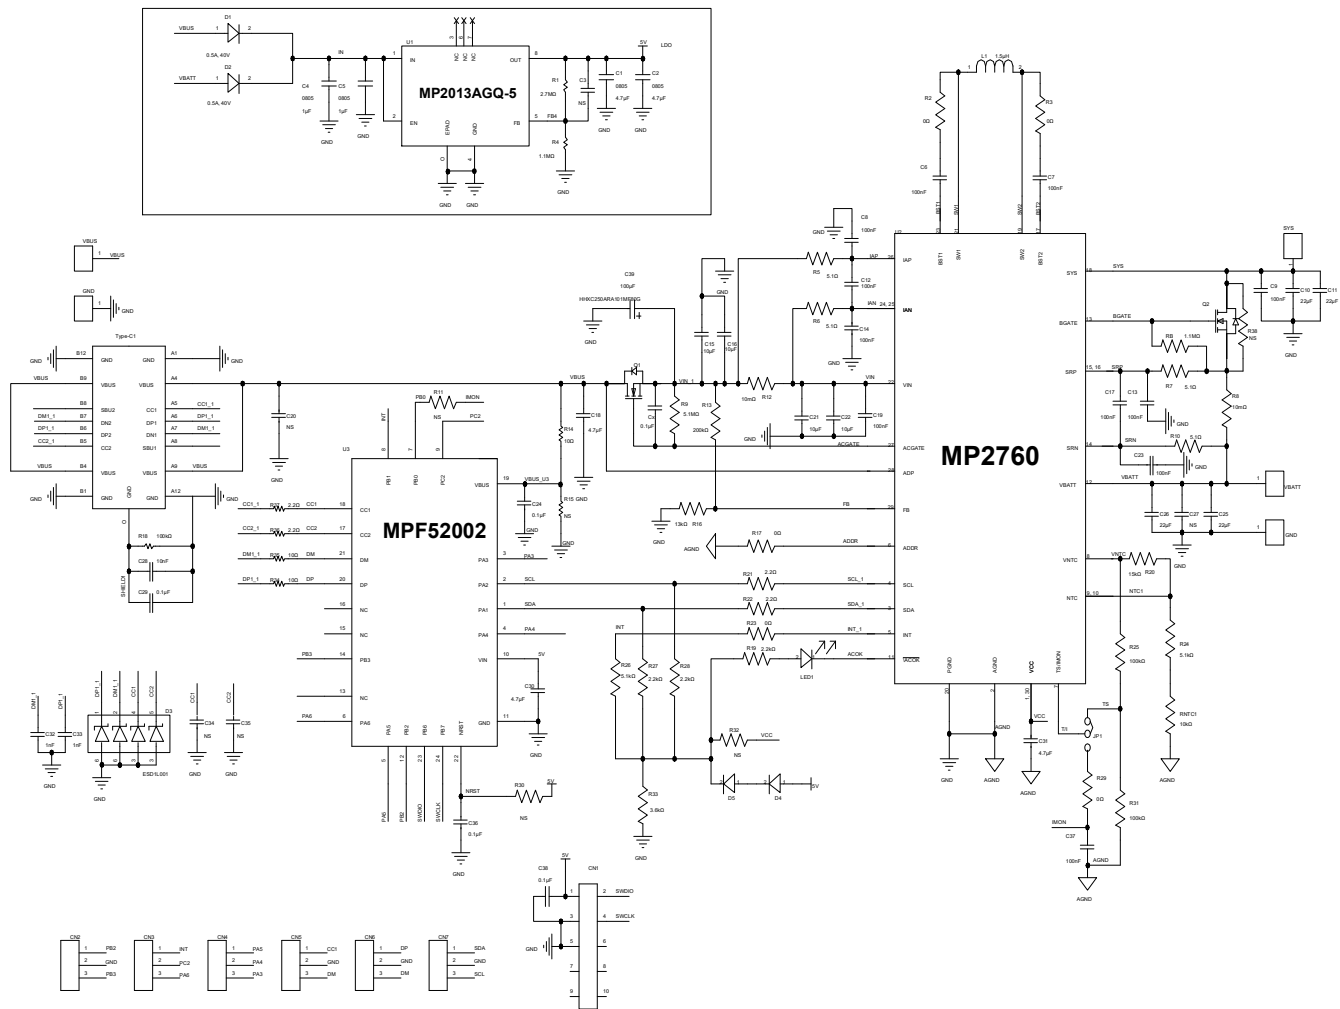

**Figure 16: Copying the Full Name of the Firmware**
- g. Copy the full name of the firmware (e.g. MPF52002GRE-0001-fr1003.axf) into “Options for Target...” > “Output” > “Name of Executable”, and then click “OK” (see Figure 16).